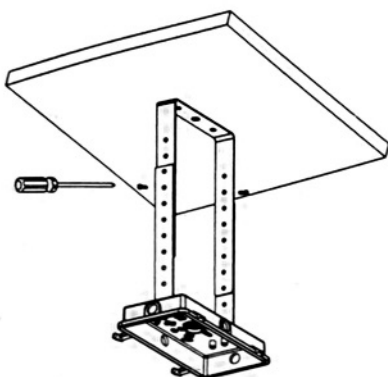

Figure 3-6
6. Align with the holes of upper and lower bracket; tighten with screws; Figure 3-6